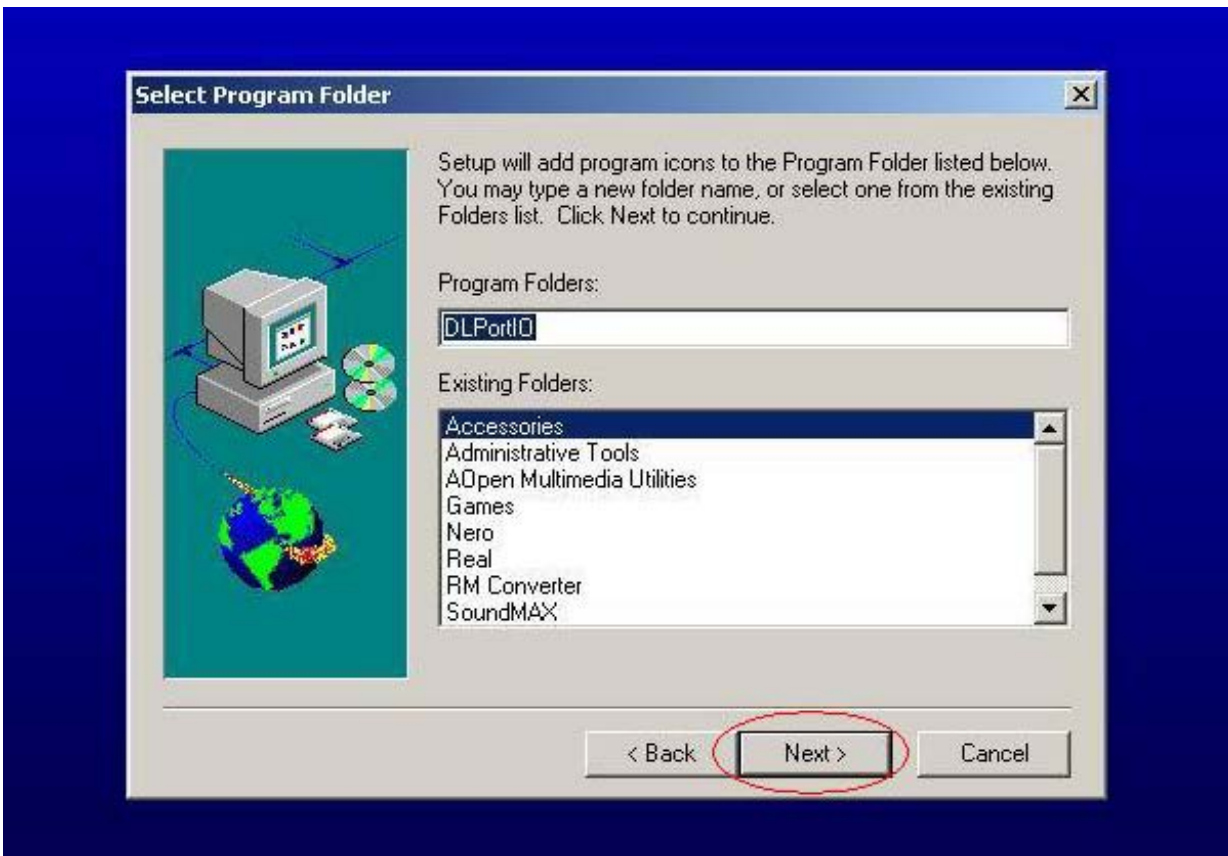

Fig. 0.4
5. Continue through the installation process by pressing "Next" four times; see Fig. 0.4.